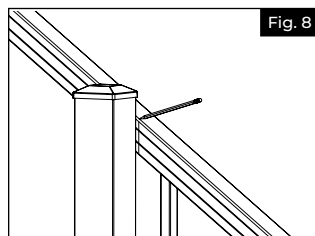

Fig. 8
- Ensure bracket is centered to post. Then, using $\frac{5}{32}$ " drill bit, pre-drill first bottom bracket screw hole through bracket hole and post (use the four outside corner holes) (Fig. 8).
Insert a baluster without a tabbed end into each of the first and last baluster holes of the bottom rail, and set the top rail in place by inserting them into the corresponding holes (Fig. 7). Place the top rail along side of the posts to measure accurately. Adjust for plumb. Trace the posts onto the rail and mark $\frac{1}{8}$ " short to allow for brackets (Fig. 8). Cut the top rail on those marks. Insert a baluster into each routed hole of the bottom rail.
- e. S'assurer que le support est centré sur le poteau. Puis, au moyen d'un foret de $\frac{5}{32}$ po (4 mm), percer le premier avant-trou de vis du support inférieur à travers le trou du support jusque dans le poteau (utiliser les quatre trous des coins extérieurs) (Fig. 8).